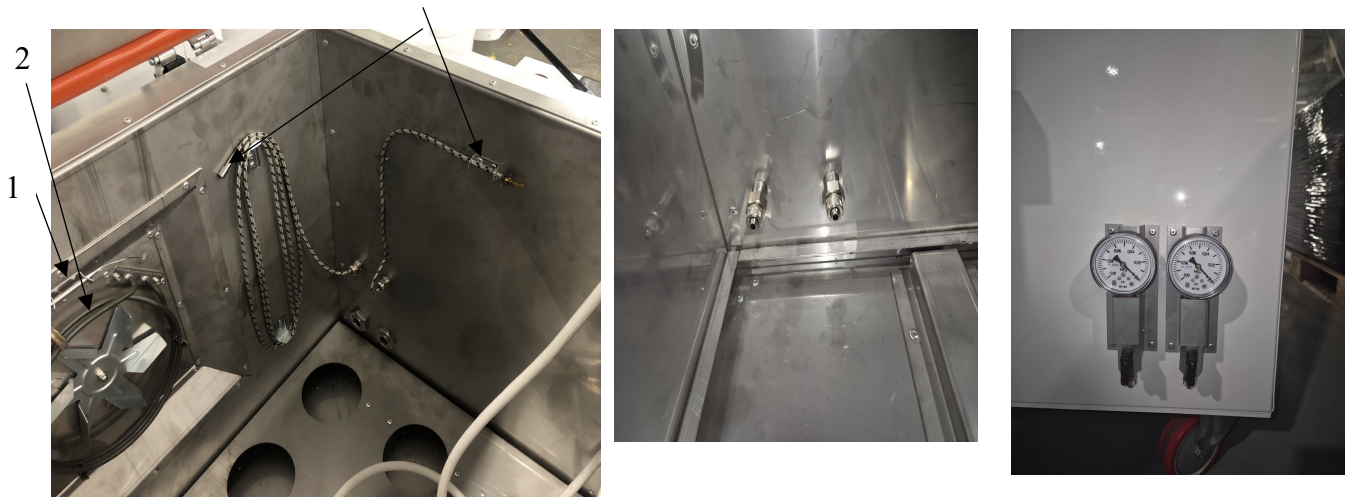

Figure 3 – view of the heating elements
For heating, the oven is equipped with two tubular electric heaters with fans (Fig. 3, pos. 2), which evenly distribute the hot air. Two thermocouples (Fig. 3, pos. 3) and a thermostat (Fig. 3, pos. 1). To connect the vacuum pump, two vacuum ports are placed inside and outside the oven (Fig. 3, pos. 4, 5). To supply power to the vacuum pump, there is a 220V socket, with the function of turning off the power supply at the end of the specified heating cycle.